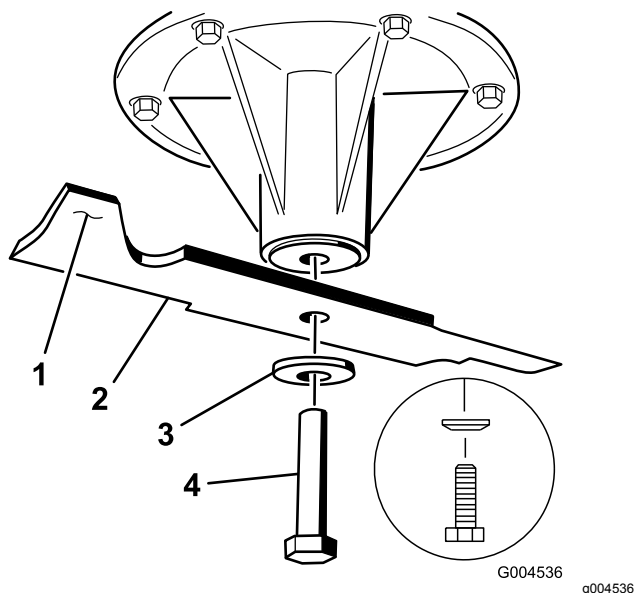

Figure 79
1. Install the blade onto the spindle shaft (Figure 79).
2. Install the spring disk and blade bolt (Figure 79).
Note: The spring-disk cone must be installed toward the bolt head (Figure 79).